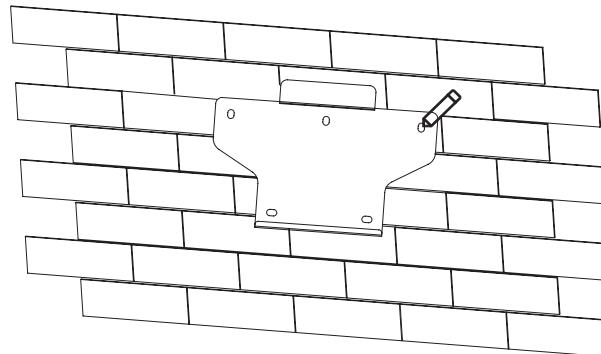

Figure 4-5 Mark the hole position
- ① Use the wall bracket as the template to mark the position of 5 holes on the wall. See Figure 4-5 for details: